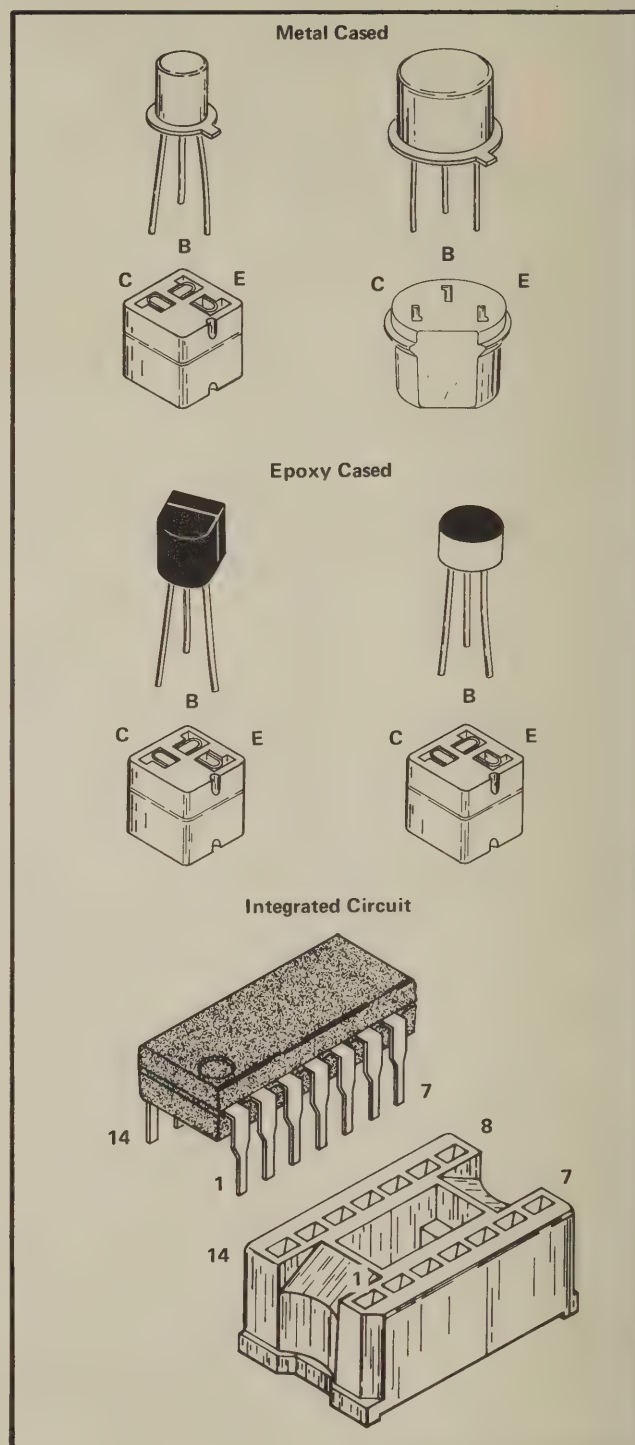

Fig. 4-4. Lead configuration for socket mounted transistors and IC's used in the 2901.
Electrode Configuration for Socket Mounted Transistors and Integrated Circuits. Lead identification for the transistors and IC's is shown in Fig. 4-4.
4. Be sure the component is inserted properly in the socket (see Fig. 4-4).
described in the circuit description and on the diagram. Lead configuration and data for the IC's used in this instrument are shown in Figs. 4-4 through Fig. 4-7.